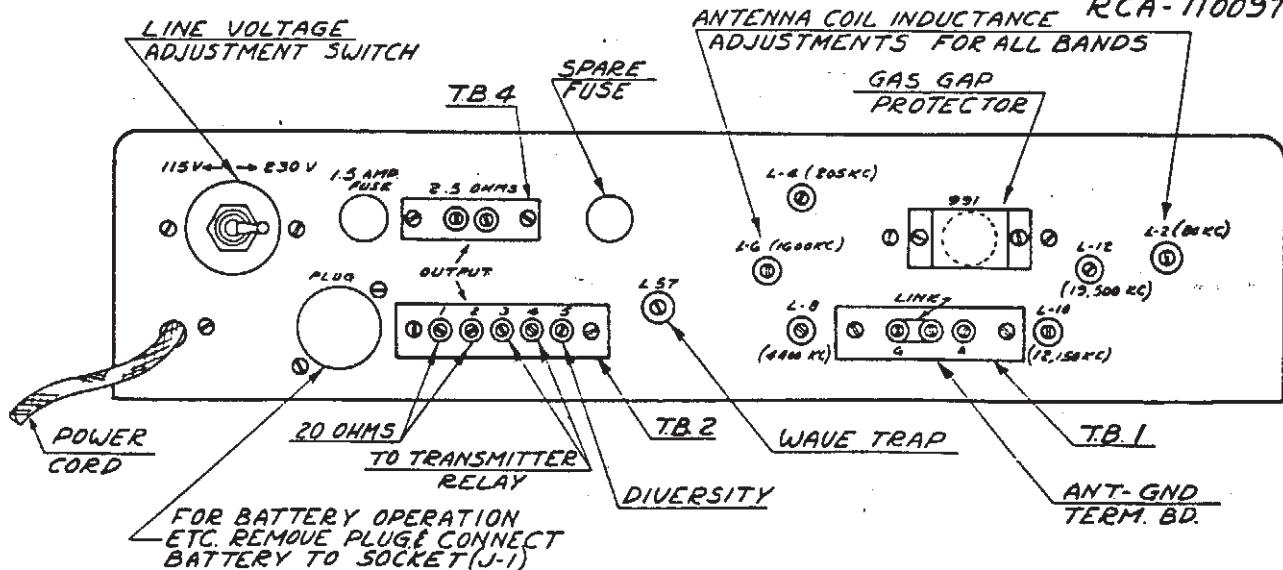

Figure 3.—General Purpose Communications Receiver—Rear Apron
The antenna terminal board is provided with three terminals (see Figures 3 and 7), two of which may be joined together with a link. When a single wire antenna is used, the link should be closed and the antenna connected to "A". If a ground is used, it should be connected to "G".
4.5 Speaker:—Terminals for connection of a loudspeaker are indicated in Figures 3 and 7. The output transformer is designed to match a p.m. dynamic speaker having 2.5 ohms impedance.
2. Transmit position which gives energized tube filaments, open plate circuits, and shorted terminals (for transmitter relay) on the speaker terminal board on the back of the chassis. (3. & 4. on T.B.-2.). Connect relay to these two terminals for transmitter operation. (See Figure 3.)
Refer to Figure 3: Connect together the terminals, marked "Diversity" of the receivers, and equip each receiver with a separate antenna. Tune each receiver to the same station as explained in Section 5.12 above.